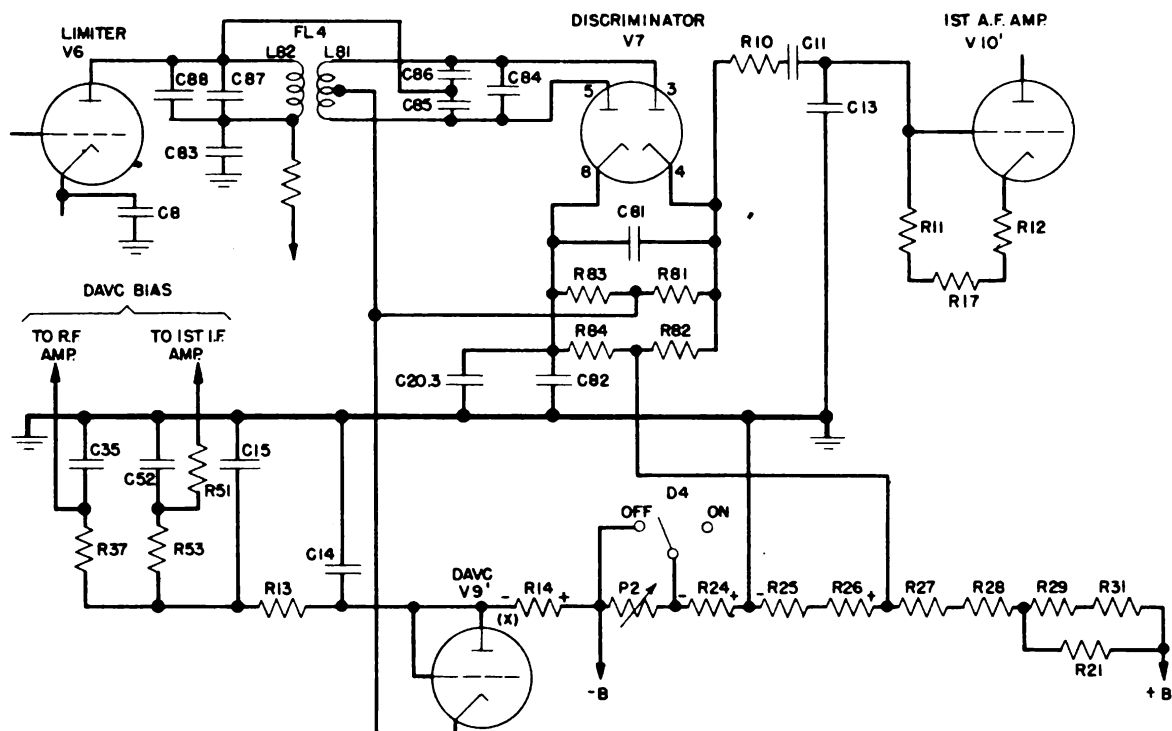

Fig. 29. Radio Receiver BC-683-A: Functional Diagram of Delayed-automatic-volume-control Circuit
f. Voltage Divider. The voltage divider which is shown in the lower part of Fig. 29 serves three general functions:
(1) It constitutes a bleeder across the high-voltage direct current from the filter to discharge the capacitors when the power supply is not in use.
(2) It provides the reduced positive voltages required by the second intermediate-frequency amplifier, the limiter, the delayed-automatic-volume-control, and the squelch circuits.
(3) It provides negative grid bias for the radio-frequency and intermediate-frequency amplifiers as well as the limiter.
b. Delayed-automatic-volume-control Circuit. A functional diagram of the delayed-automatic-volume-control circuit is shown in Fig. 29.
The circuit arrangements for providing the automatic-volume-control actions are described in more detail as follows (referring again to Fig. 29): The cathode of the automatic-volume-control diode V9' is connected through R81 and R82 in parallel with R83 and R84 to the junction of R26 and R27 on the voltage divider, then through resistors R25 and R26, to ground. The plate and grid are both connected through R14 to the negative end of the dynamotor; thus they are negative with respect to the cathode when